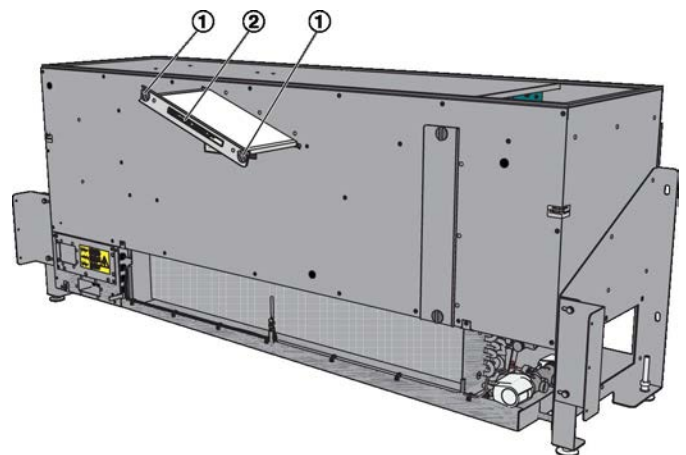

Fig. 22: SCHOOLAIR-B coarse dust filter
8. ▶ Open the fasteners (Fig. 22/1) by turning them (¼) and remove the filter (Fig. 22/2).